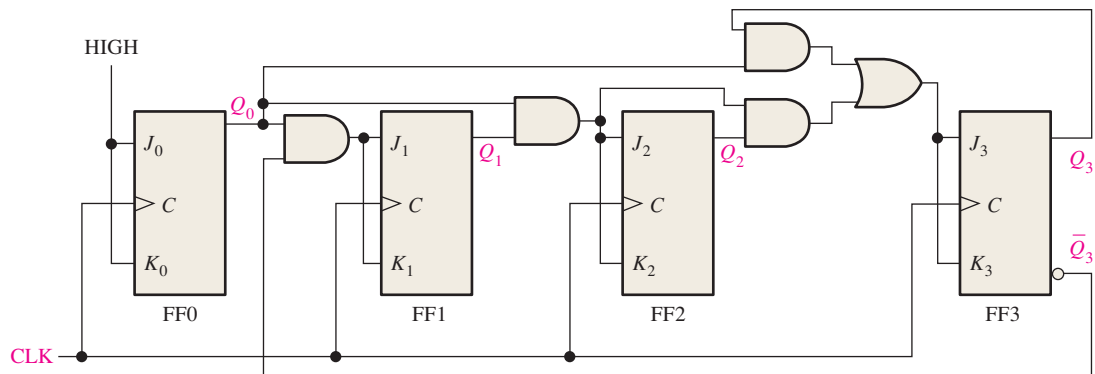

FIGURE 9-68
9. By analyzing the J and K inputs to each flip-flop prior to each clock pulse, prove that the decade counter in Figure 9-68 progresses through a BCD sequence. Explain how these conditions in each case cause the counter to go to the next proper state.